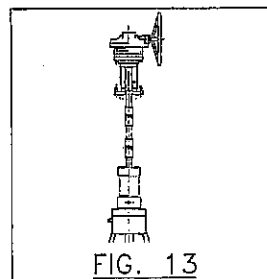

FIG. 13
- *Figure 13* ► it represents an extension stem and platform.